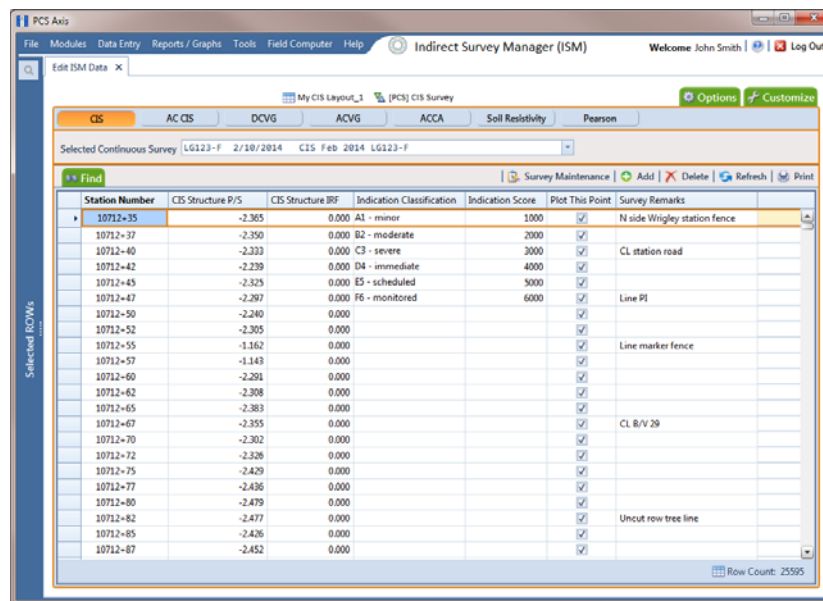

Figure 7-65. Edit ISM Data
- 3 Click **Data Entry > Edit ISM Data** to open the ISM data entry grid. Then click a button labeled with the type of continuous survey data you want to work with, such as the **CIS** button  (Figure 7-65).